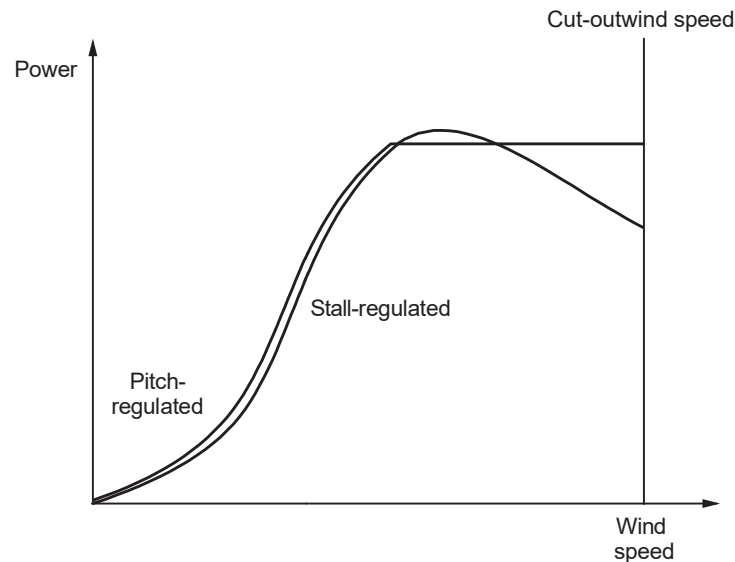

Fig. 3.11.3 Pitch-regulated and Stall-regulated Wind Turbine
- This behavior is illustrated in below Fig. 3.11.3, where a typical stall-regulated turbine is represented by the curve.